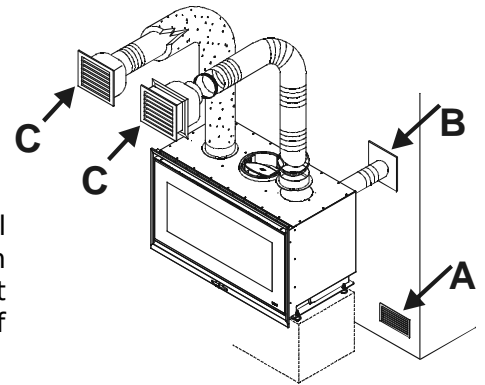

Figure 2 – Natural convection
If this system is used, the installer must make a connection to the outside (B) concerning the inlet of combustion air (fig.2), and an air intake (A) for the inlet of fresh ventilation air inside the cladding.